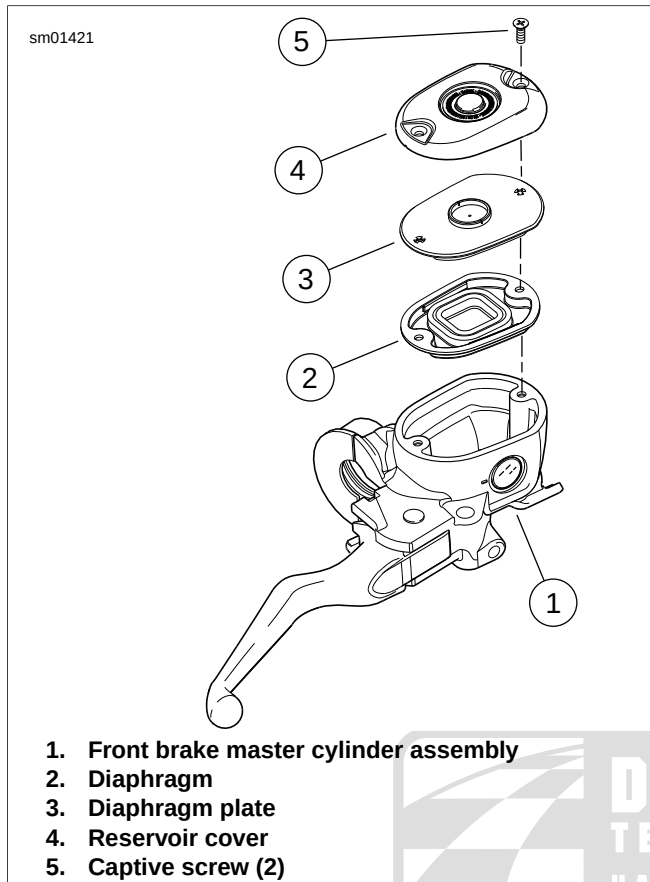

Figure 1-33. Front Brake Master Cylinder Cover Assembly (Typical)
- See Figure 1-33. Remove two screws (5), reservoir cover (4), diaphragm plate (3) and diaphragm (2) from master cylinder reservoir (1).
8. See Figure 1-33. Install diaphragm (2), diaphragm plate (3), reservoir cover (4) and screws (5) on front brake master cylinder reservoir. Tighten screws to 9-17 in-lbs (1.0-2.0 Nm).